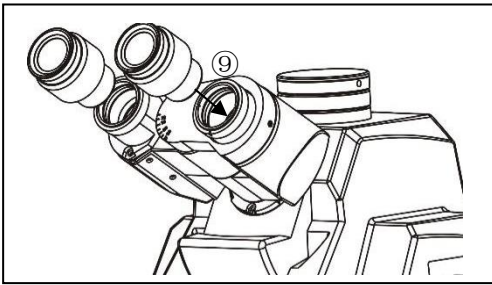

Figure 10
**4-2-8 Installation eyepiece (Figure 10)**
Insert the eyepiece in the observation head eyepiece barrel in the path of the mid-sequence number (9) Figure 10 until the end.